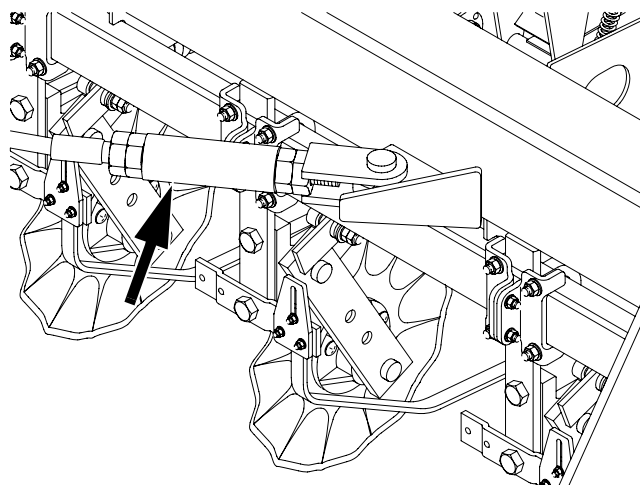

Figure 11
4. Make adjustments at the box end of each pull cable as shown in Figure 11. Loosen the jam nut on the adjustment trunnion screw. Turn the screw in or out to move the box end forward or backward as required. Tighten the jam nut.